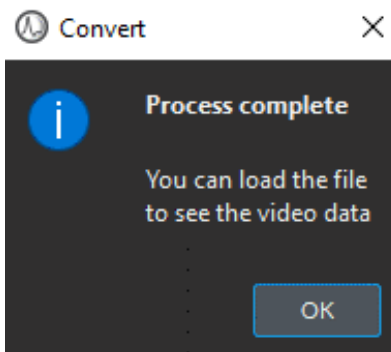

Figure 12.14: *Convert Microscope Images, Process Complete Pop-up*
- 7. The **Convert** button initiates the conversion process. A **Process Complete** pop-up window (Fig. 12.14) will be displayed if the conversion is successful. To view the file in the **File Manager** you must first load it (See Section 12.2).